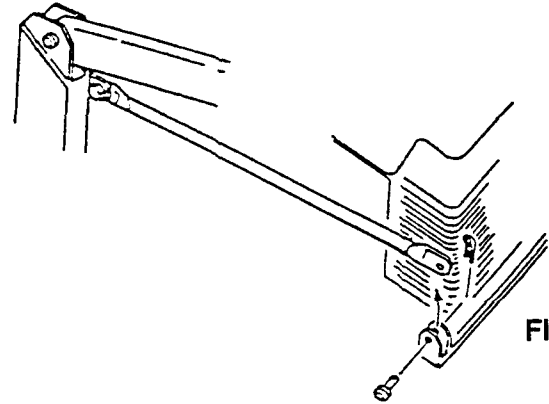

FIG. 13
- Remove the #3 clip pins and 1/2 x 1 1/4 clevis pins which hold the brace arms to the front mount. (See Fig. 13).